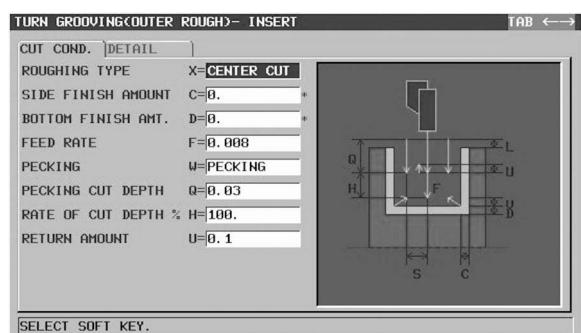

Figure 7-30 GROOVING CUT CONDITIONS
34. Complete required data for the CUT COND. tab as shown in Figure 7-30 where the values are based on the material type.